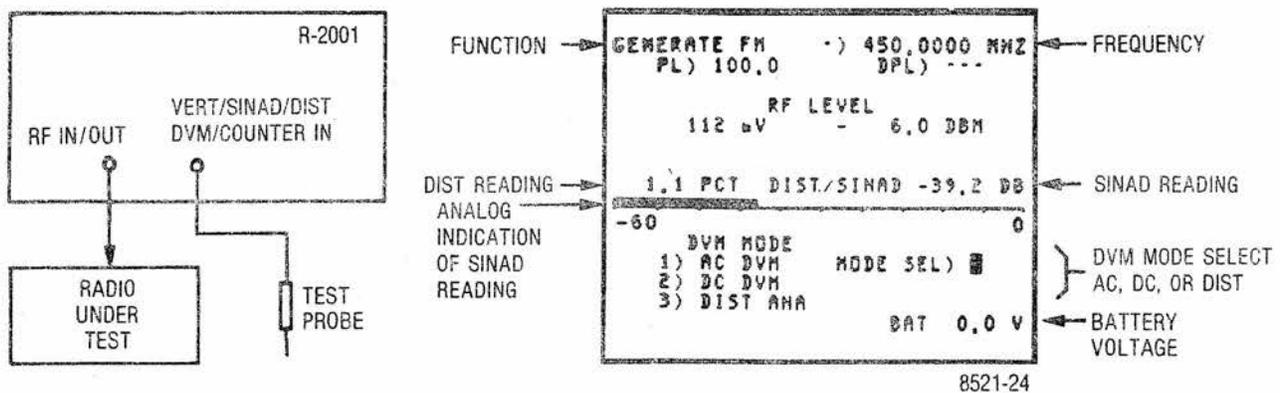

Figure 4-13. Test Setup for Using DVM and Signal Generate with CRT Display
- f. Troubleshooting Receiver audio stages using "DVM and Signal Generate" function simultaneously (Figure 4-13).